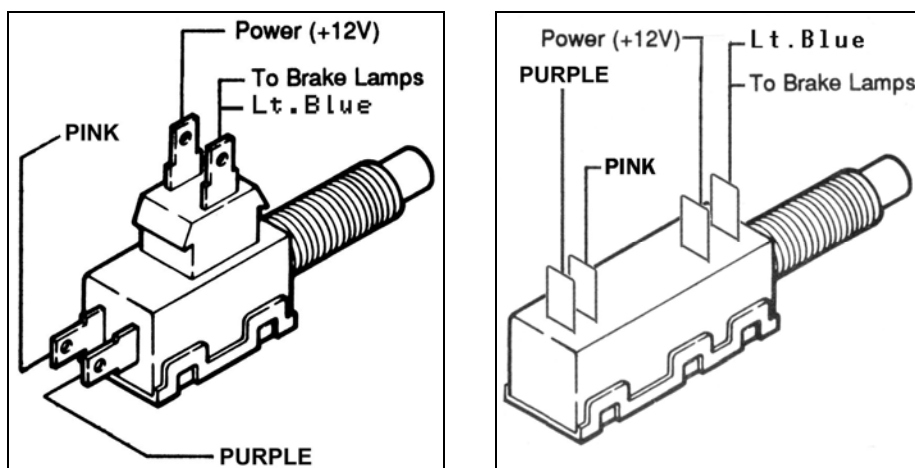
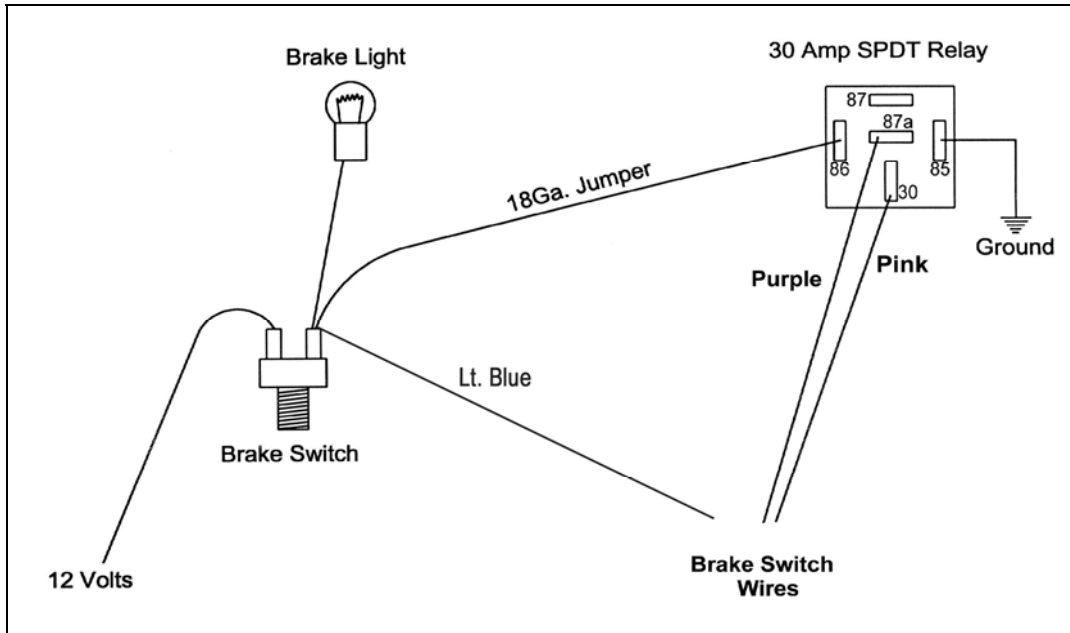

FIGURE 7.2 Brake Switch Connections
FIGURE 7.3 Brake Switch Relay
- B. BRAKE SW -** These circuits are used to provide power to the TCC solenoid in the automatic transmission. These wires will connect to the brake switch terminals that are normally used for cruise control or TCC solenoid (normally closed). **These wires do not connect to the terminals for the brake lights.** See table 4.1 for the recommended brake switch. If you are using the recommended brake switch then you will wire it according to **Figure 7.2**. The pink wire to the back of the switch in the illustration is the wire that has power on it whether or not the brake is being applied. If your vehicle has a pressure type brake switch, you may use a relay as shown in **Figure 7.3**. The relay must be a **SPDT Relay** and wired correctly or it could result in a dangerous situation with the vehicle. The torque converter may not unlock.